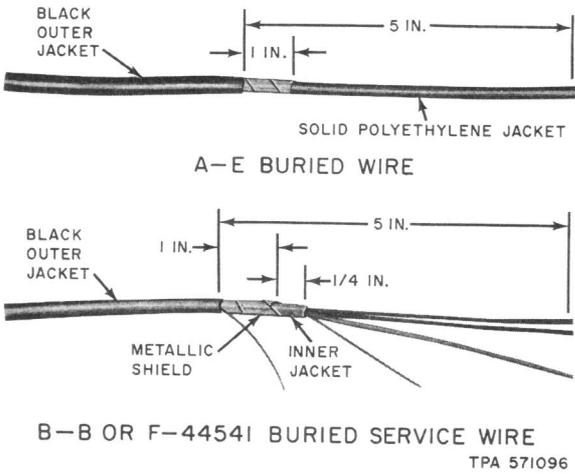

Fig. 12—Sheath Preparation for Placing F Connector
5.03 Remove the metallic shield as shown in Fig. 12.